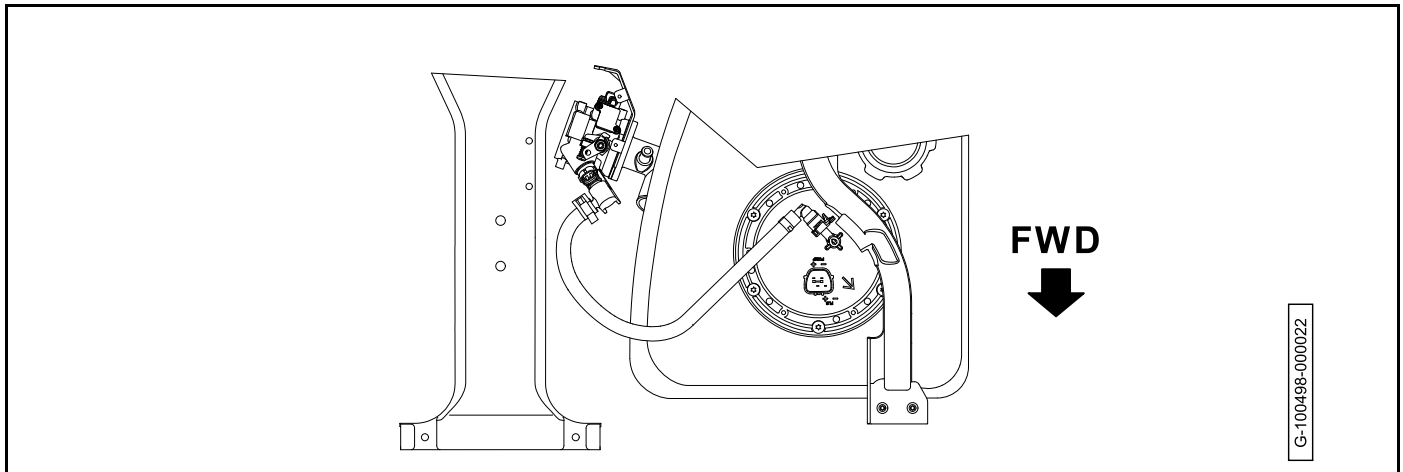

Figure 29-13
- 2.2. Make sure that the fuel line is routed correctly (**Figure 29-13**).